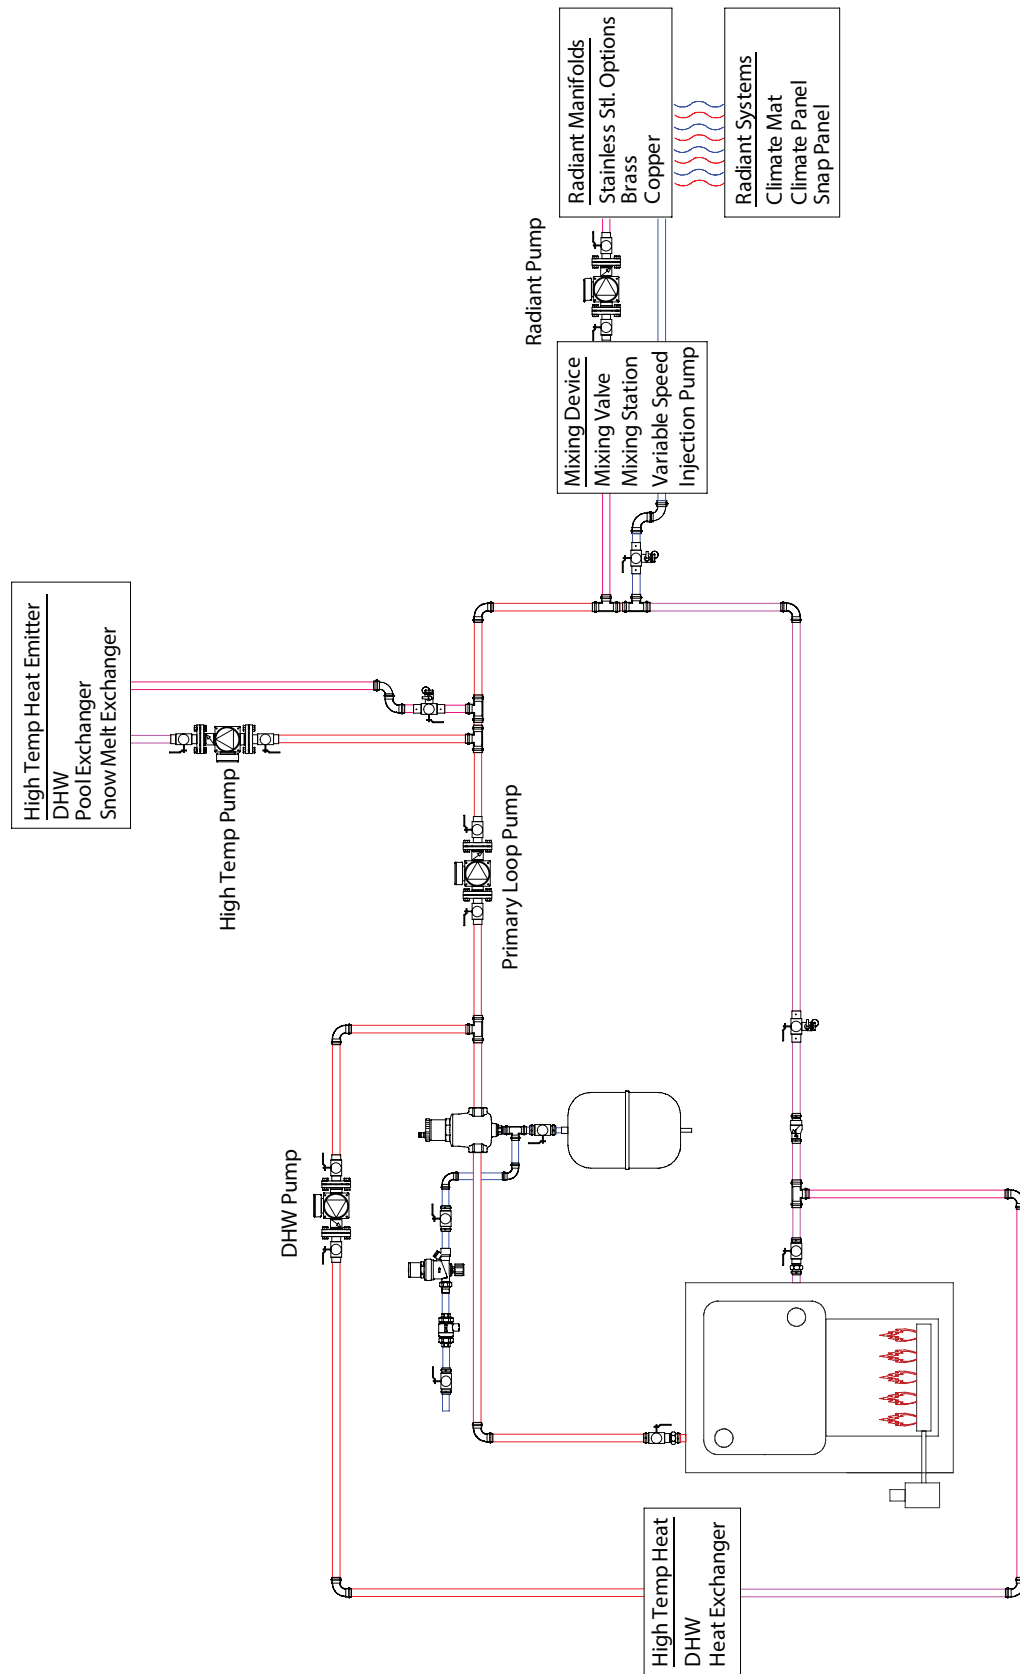

Figure 1-17 Anatomy of a heating system
- Closely spaced tees: Space tees less than 4 pipe diameters apart and less than 6 pipe diameters from the closest change of direction to achieve design flow rates through secondary piping. See Figure 1-17.